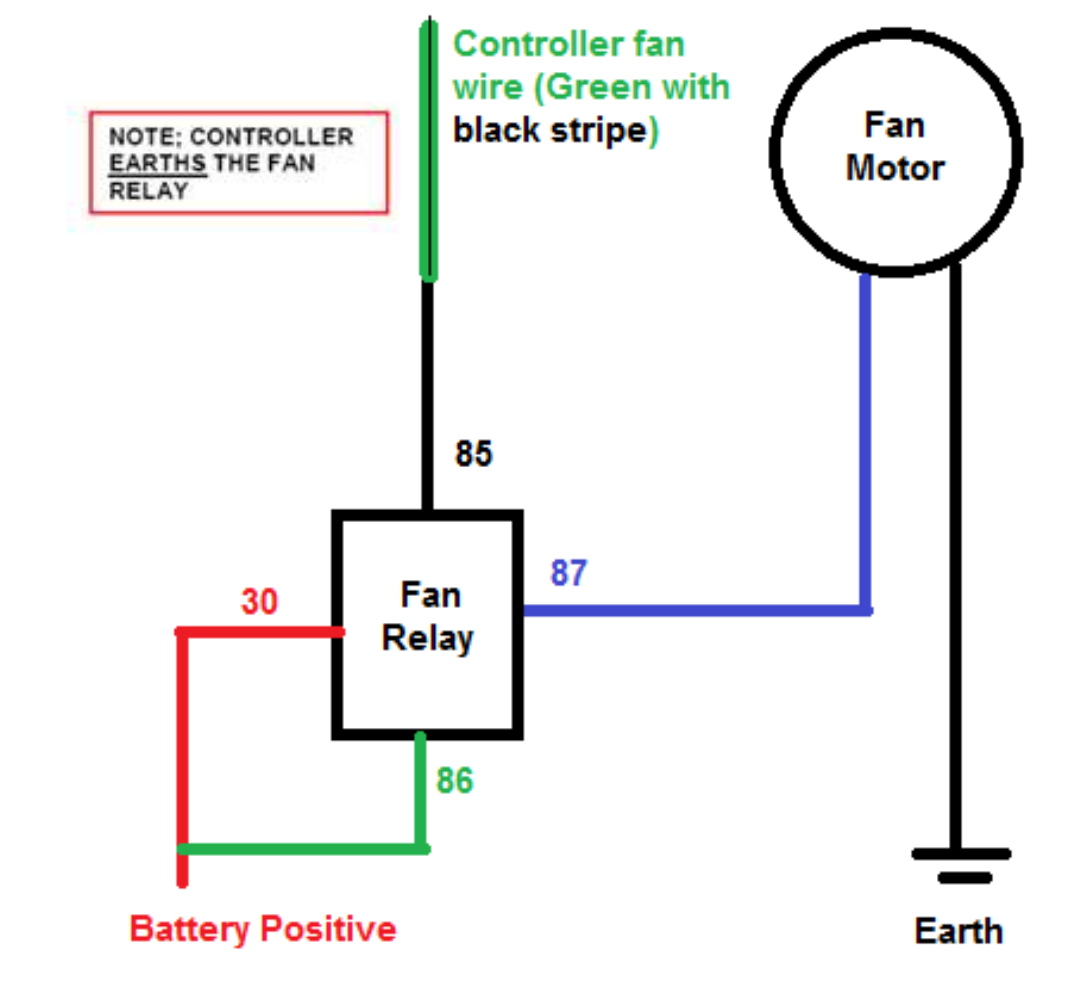

Figure 6: Fan Controller Wiring Diagram
Please refer to the **Figure 6** (page 9) for fan to controller wiring details. Please call Davies, Craig at (03)93691234 if you require another remote LED to complete the wiring.